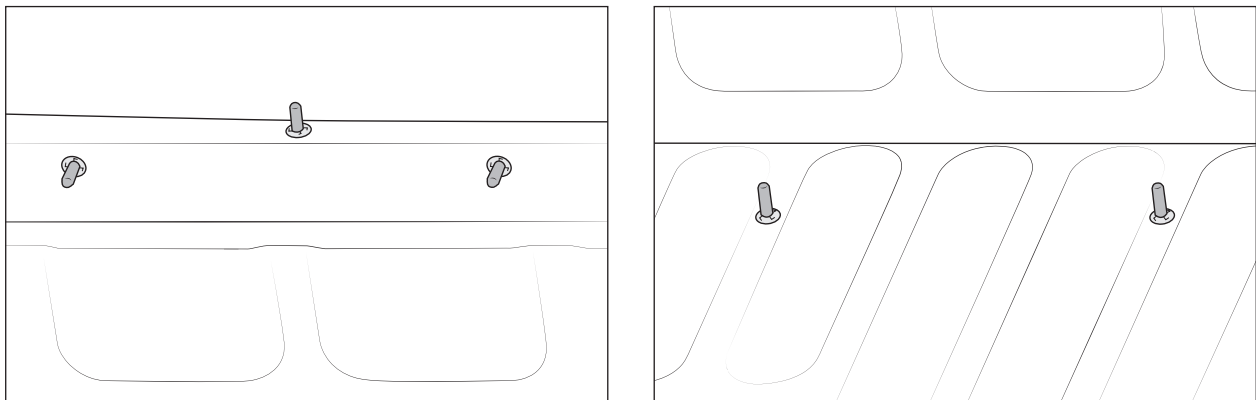

Figure 7
8. Next use the fish wire pull two M10x40 bolts and backer plates (with shank) through the bed and hold in place with retaining washers (fig. 7-right).